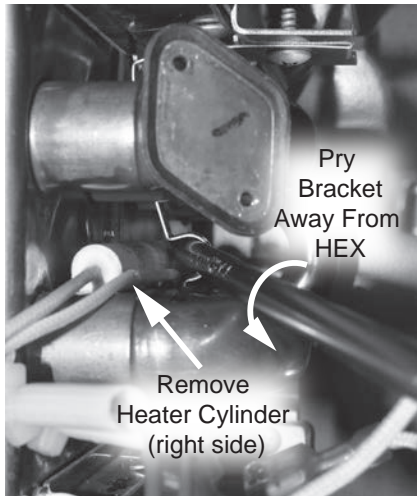

Figure 147 - Removing primary HEX heating cylinders
- 39** Use a Phillips screwdriver to gently pry the flexible brackets away from the HEX to allow space for the heater cylinders and wires to slide out. Remove the two heater cylinders. See Figure 147.